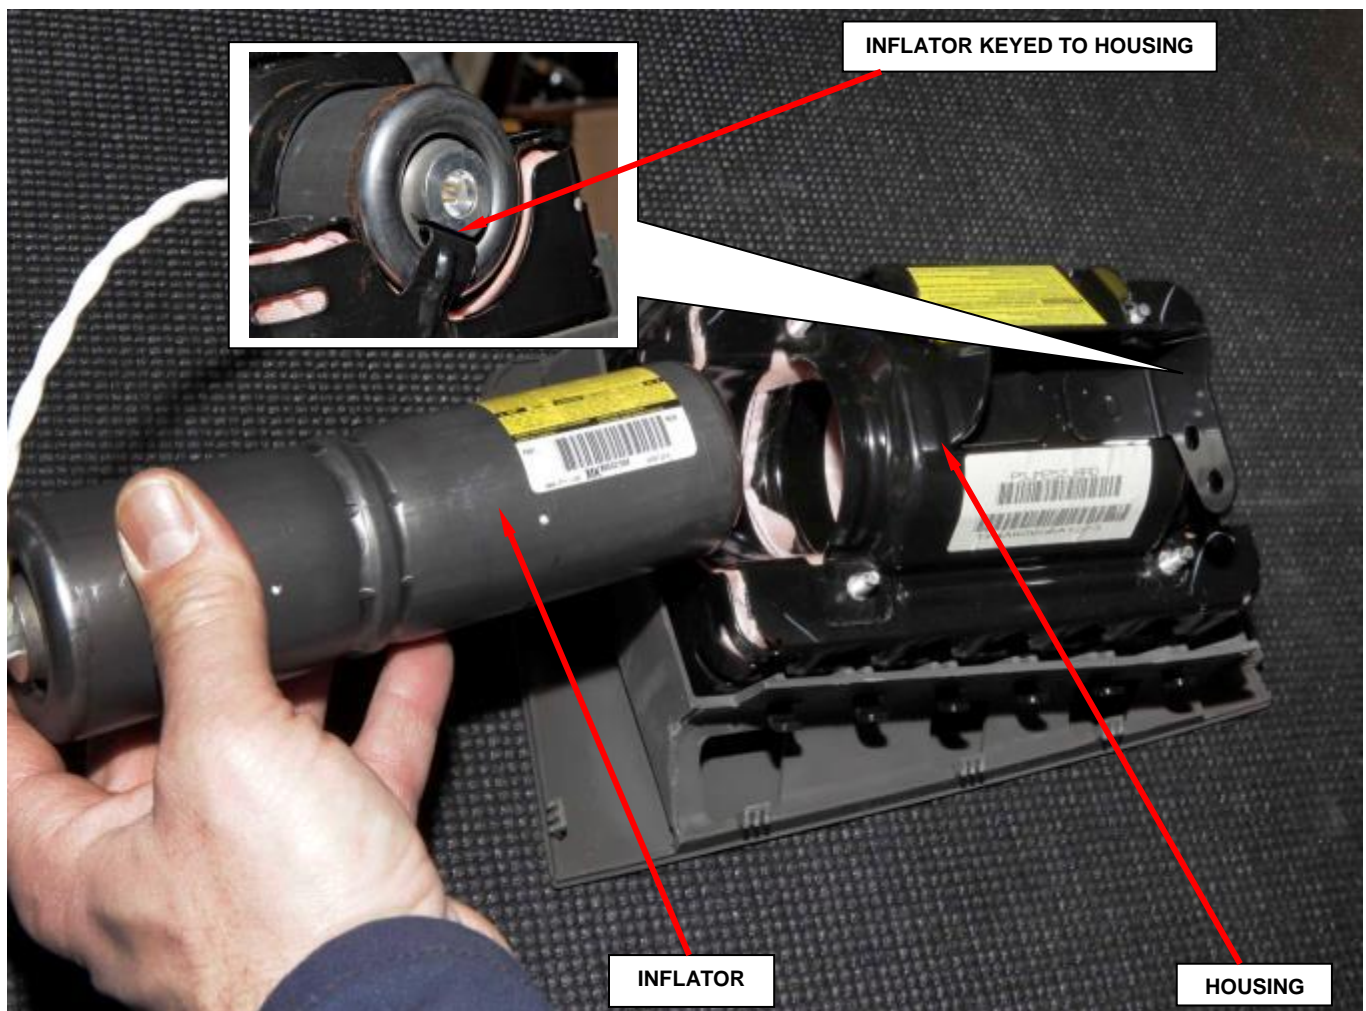

Figure 59 – Inflator Installation
NOTE: The inflator's key **MUST** line up with the housing's key (Figure 59).
- o. Slide the **new** inflator into the housing (Figure 59).